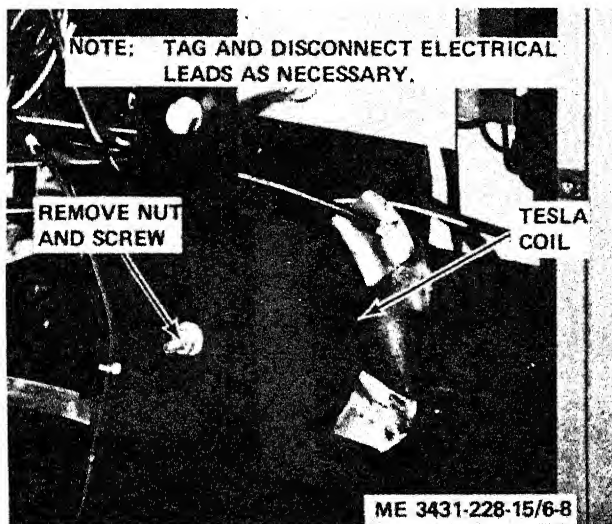

Figure 6-8. Tesla coil, removal and installation.
- (1) Disconnect ac power from the welding machine.
- (2) Remove the top and housing (para 3-20).
(3) Refer to figure 6-8 and remove the tesla coil.
- (1) Refer to figure 6-8 and install the tesla coil.
- (2) Install the top and housing (para 3-20).